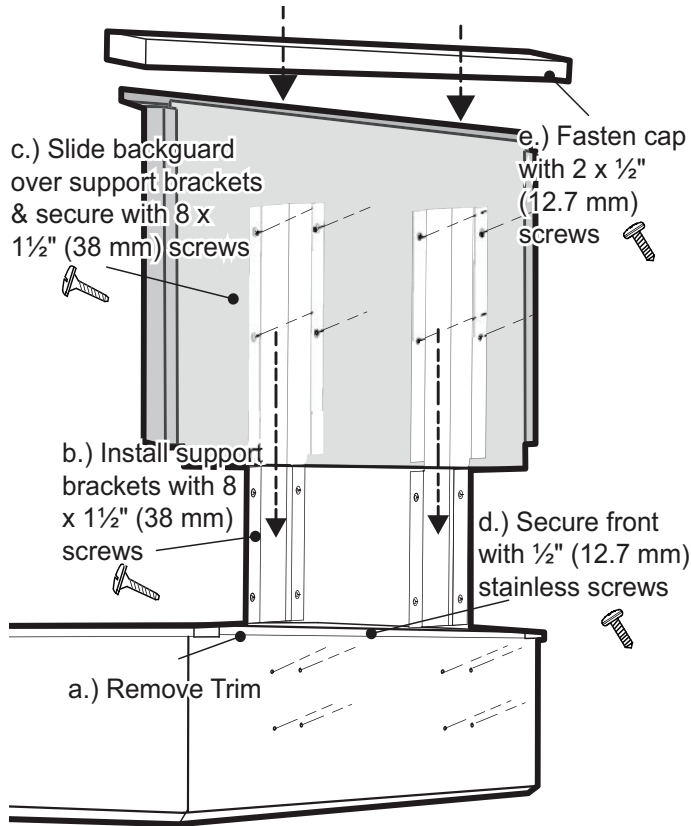

Figure 12: Low Back Attachment
- b. Slide the support brackets between the two rangetop chassis back panels. Secure each bracket with 4 x 1½" (38 mm) screws (B, *Figure 12*).
- c. Slide backguard over the two brackets on the rear of the rangetop. Fasten them together with 8 x 1½" (38 mm) screws (C, *Figure 12*).
- d. Fasten the front of the backguard to the rangetop with 2 or 3 x ½" (12.7 mm) screws (D, *Figure 12*).
- e. Place the backguard cap on top and secure using 2 x 1/2" (12.7 mm) stainless screws (E, Figure 12).